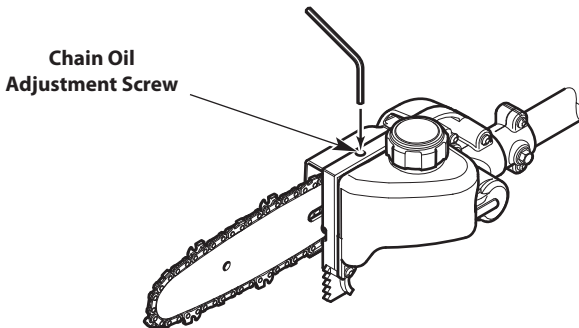

Fig. 22
1. Insert a 3/32-inch Allen wrench into the chain oil adjustment screw (Fig. 22).